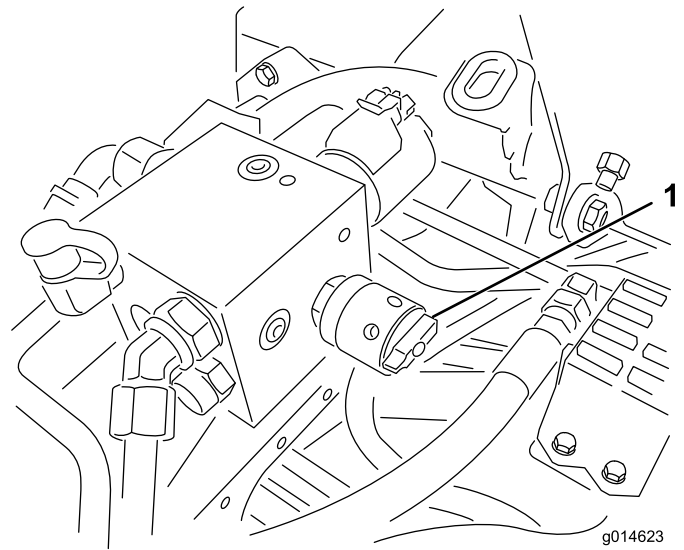

Figure 39
- To set the reel speed, rotate the knob (Figure 39) until the indicator arrows are in line with the number designating desired setting.